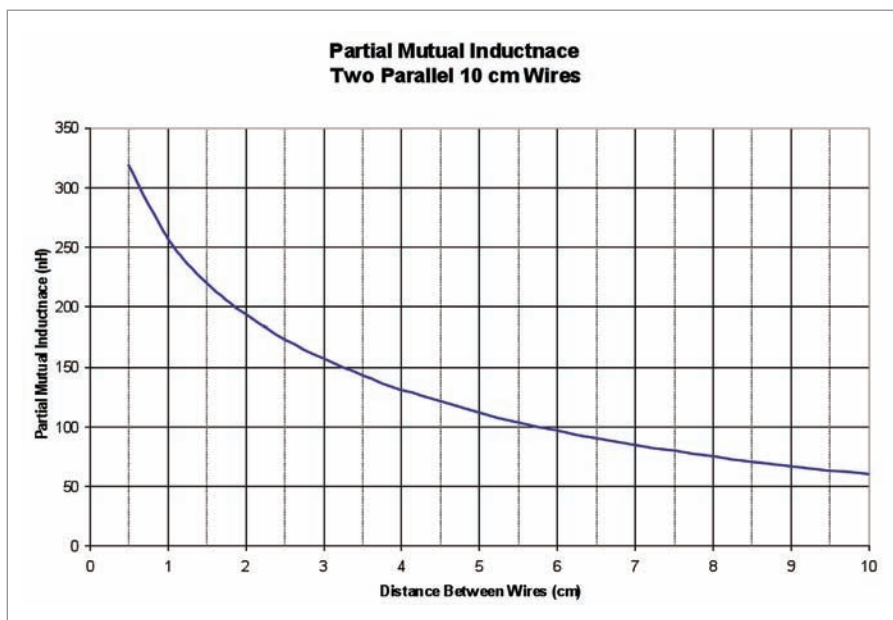

Figure 9: Example of partial mutual inductance of a pair of parallel wires
Figure 9 shows the partial mutual inductance for two parallel 10 cm long wires. Note that when the wires are close together, the partial mutual inductance is very high. Referring back to (5), we see that when the partial mutual inductance is high, the total inductance is low (because it is subtracted). When the wires are close, the loop area would be smaller, resulting in a lower inductance, as expected. Calculations for more complex geometries can be found in [5].